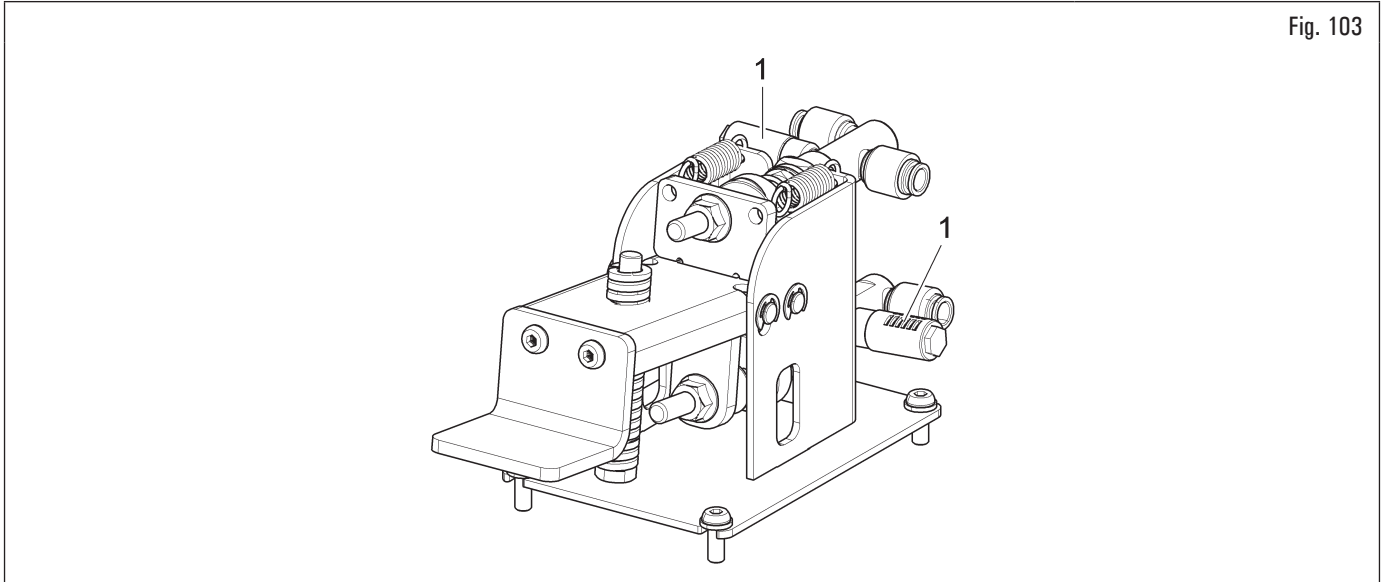

Fig. 103
2. undo the silencers (Fig. 103 ref. 1) located on the inflation pedal servo distributors;